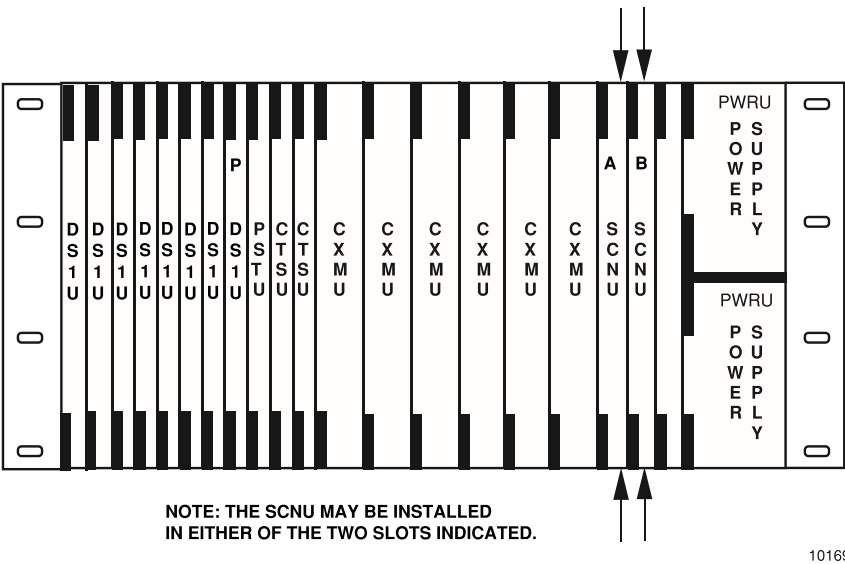

Figure 5-18. SCNU Mounting Slot Locations
- 5. Insert the SCNU into the appropriate slot in the HDT mounting shelf as shown in Figure 5-18.